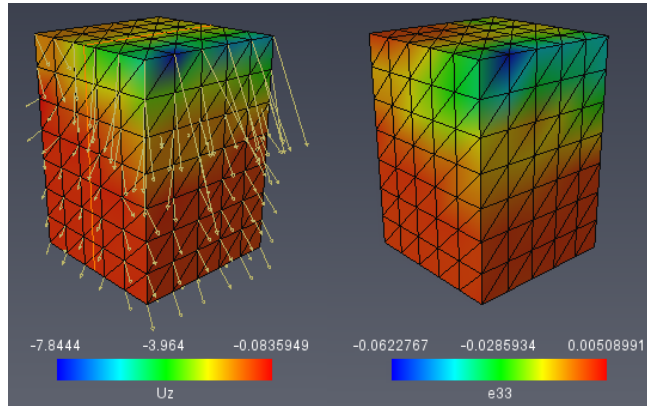

Figure 19.16: 3D visualization of the vertical displacement (left) and axial strain (right)
- To visualize the displacement vectors, connect a *Vector Field* module to *BCI_reference2.disp*. Set the *Scale* port to 25 (open more options on Scale port line and change Max value setting to 25), *Coloring* port to Uniform and select the yellow color from the port Uniform color. (see Figure 19.16).